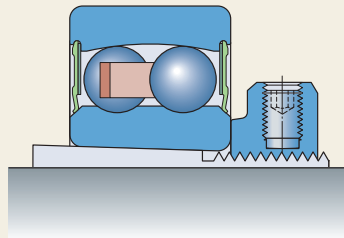

Fig. 14
- 1 Feeling the clearance reduction by turning and swivelling the outer ring (fig. 14)**